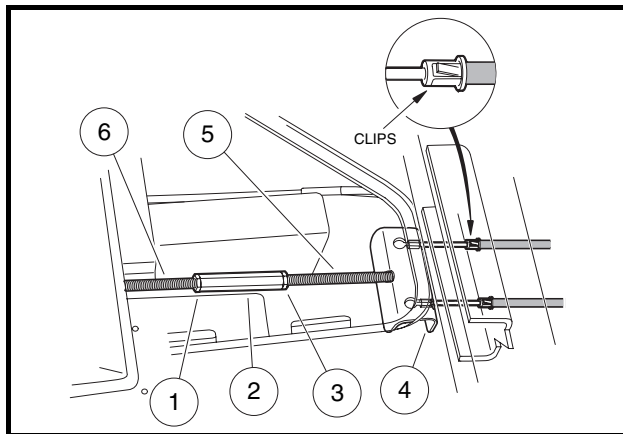
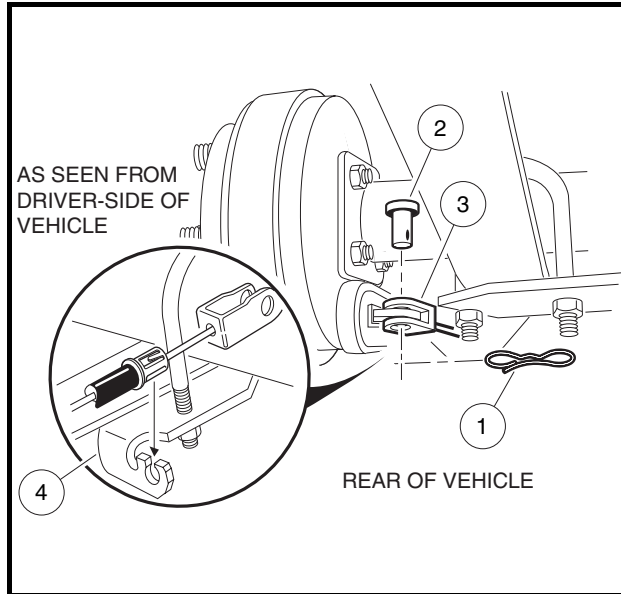
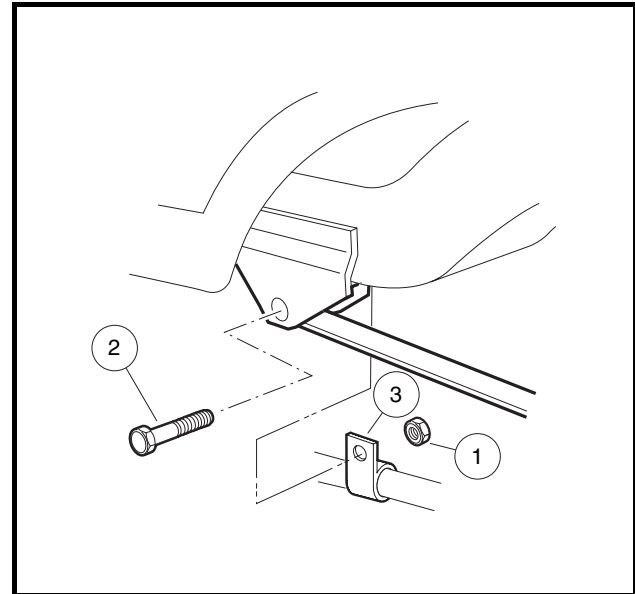

Figure 6-19 Loosen Brake Cables
Figure 6-20 Disconnect Cables at Rear Brakes
Figure 6-21 Brake Cable Mounting Tab
10. Remove the turnbuckle (2) and apply Loctite 242 to the threaded ends of both the rod from the pedal group (6) and the brake actuator rod (5) (**Figure 6-19, Page 6-11**). Connect the rods using the turnbuckle. Ensure the ends of the brake cables do not slip out of the brake equalizer during this procedure.
4. Loosen the two jam nuts (1 and 3) on either side of turnbuckle (2) (**Figure 6-19, Page 6-11**). Note that the forward jam nut (1) is a left-hand thread. Thread each nut approximately 1/2 inch (12.7 mm) away from the turnbuckle.
5. Loosen turnbuckle (2) until the bolt (5) is free of the turnbuckle.
6. Rotate the bolt (5) and equalizer bracket (4) to the upright position then slip the cable heads out of the bracket.
7. Remove nut (1) from the bolt (2) that secures front of the leaf spring (**Figure 6-21, Page 6-12**). Do not remove bolt (2).
8. Remove the mounting tab (3) of the brake cable from the bolt.
10. Remove bow tie locking pin (1) and the clevis pin (2) from the brake lever on each wheel and pull the clevis (3) away from the lever (**Figure 6-20, Page 6-12**).
11. Using brake cable release tool (CCI P/N 102555501), compress the retaining clips on the end of the cable housing enough to slip the cable end out of the bracket (3) and remove the brake cable from the vehicle.
1. Insert the end of the new brake cable through the hole in the frame (**Figure 6-19, Page 6-11**). Push on the cable housing so the clips on the housing ends secure the housing in the hole.
2. Hold the bolt (5) and the equalizer bracket (4) in the upright position and slip the cable head through the hole on top of the bracket. Pivot the equalizer to the horizontal position to capture the cable heads in the equalizer.
3. Insert the rear cable housing into the shock mount bracket (4) (**Figure 6-20, Page 6-12**). Push the cable housing end into the bracket to ensure the clips on the housing end secure the cable in position.
4. At the rear wheel brake, connect the cable to the brake actuator arm using new clevis pin (2) and new bow tie locking pin (1) (**Figure 6-20, Page 6-12**).
5. Place tab (3) on cable housing over the forward leaf spring mounting bolt (2) (**Figure 6-21, Page 6-12**). Install nut (1). Tighten nut to 18.4 ft-lb (25 N·m).